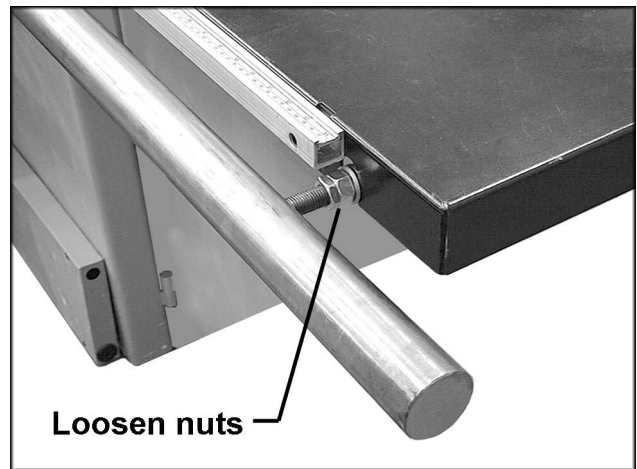

FIGURE 37
1. Loosen the nuts on the outside (third) bolt holding the guide bar on which the rip fence slides. See Figure 37.